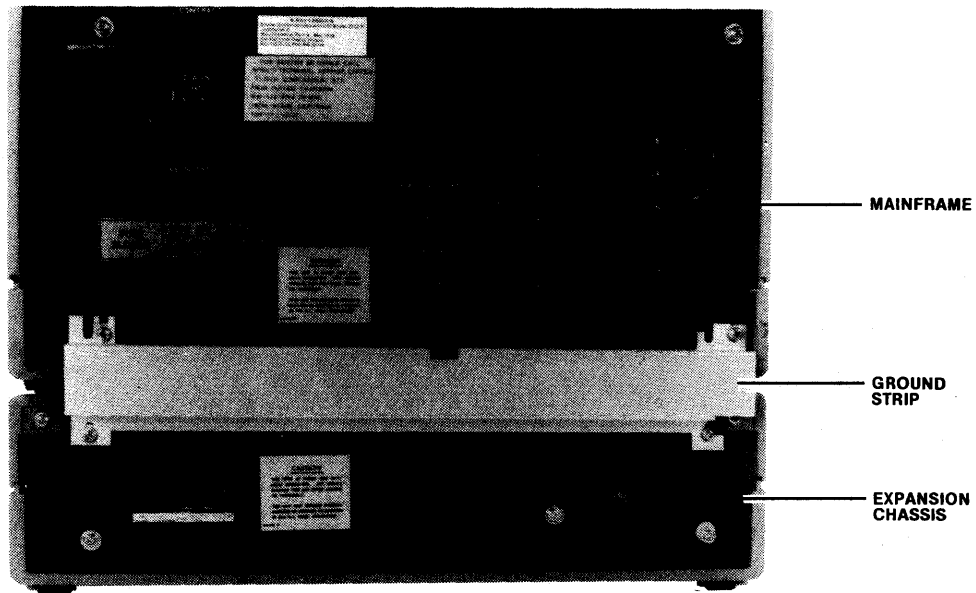

Figure 5-6. Expansion Chassis/Mainframe Ground Strip Installation
- m. Lower mainframe in place over expansion chassis. Attach aluminum ground strip between rear panels of mainframe and expansion chassis as shown in figure 5-6.
- u. Lower mainframe in place over expansion chassis. Attach aluminum ground strip between rear panels of mainframe and expansion chassis as shown in figure 5-6.